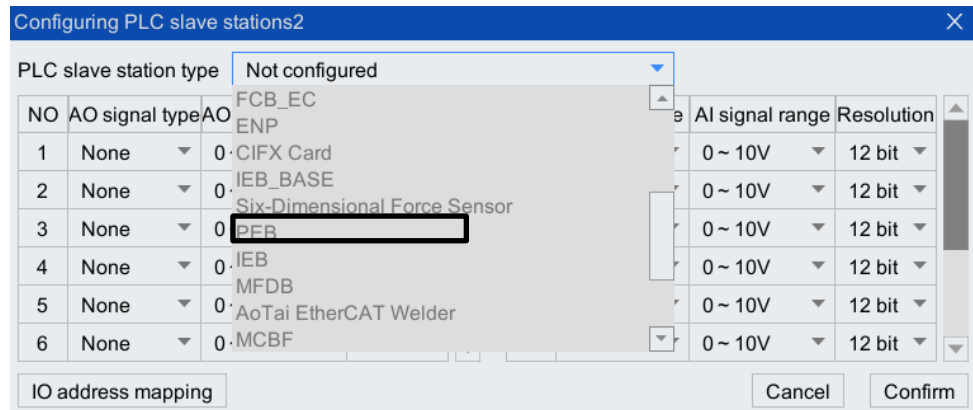
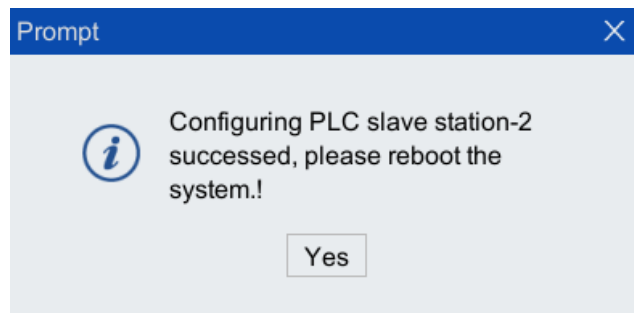

Figure 8-21 PLC slave-2 configured as PEB
Figure 8-22 "PLC Slave-2 Configured Successfully" dialog box
Step2.Select "PEB" from the drop-down list on the right of "PLC Slave station Type", as shown in Figure 8-21. Click <Confirm> button in the bottom right corner of the interface. After "Configuring PLC Slave station-2 succeeded, please reboot the system!" dialog box in Figure 8-22 pops up, click <Yes> button, power off and restart the control cabinet. Refer to Table 8-4 for the description of slave station types, and Table 8-5 for the description of PLC slave station configuration.